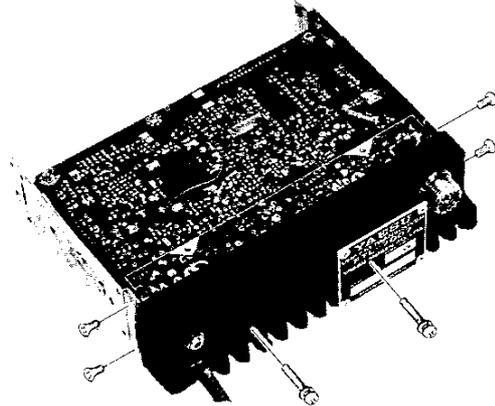

Figure 5c
d) Referring to Figure 5c, remove the two black screws in the heatsink and the two screws on each side.